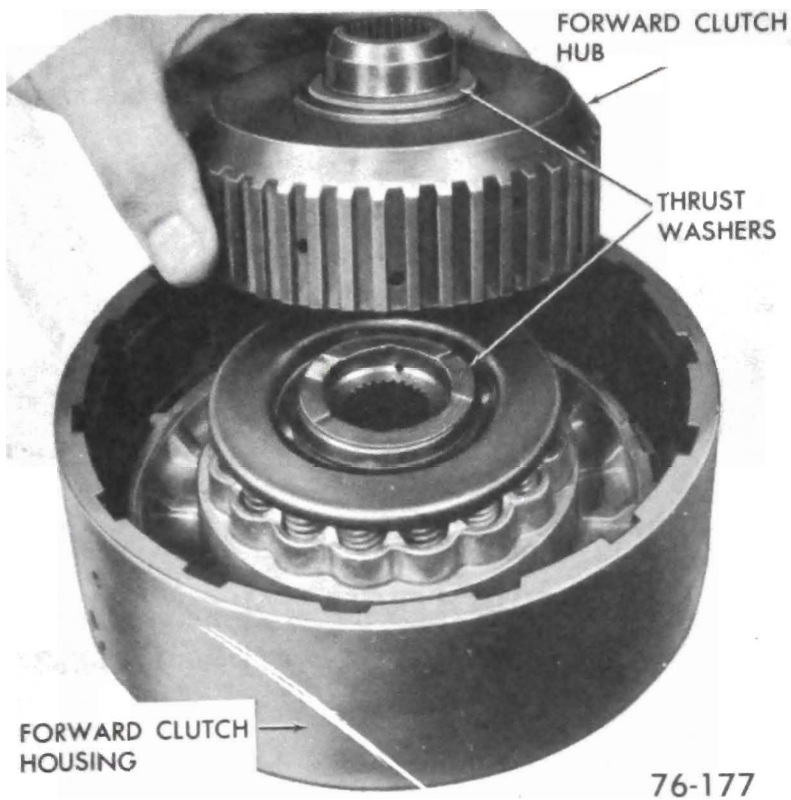

Figure 76-177
3. Remove the forward clutch hub and thrust washers. See Figure 76-177.